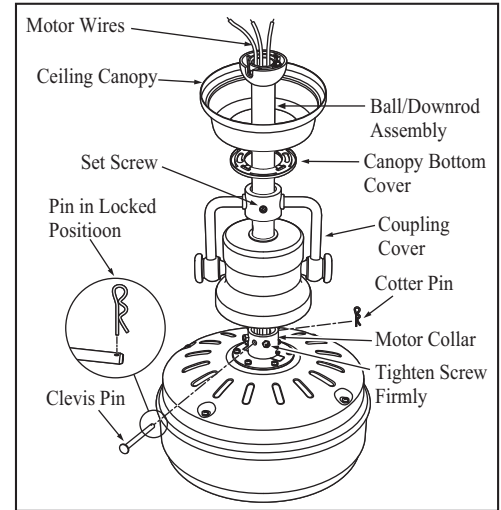

Figure 6
3. Remove the clevis pin, cotter pin and set screws from the top of the motor assembly. (Figure 6)
4. Route wires exiting from the top of the fan motor through the coupling cover, canopy cover, canopy and then through the ball/downrod. (Figure 6)
5. Align the holes at the bottom of the downrod with the holes in the coupling on top of the motor housing (Figure 6). Carefully insert the clevis pin through the holes in the collar and downrod. Insert the cotter pin through the hole near the end of the clevis pin until it snaps into its locked position, as noted in the circle inset of Fig. 6.
6. Tighten two set screws at top of the fan motor collar firmly and evenly. (Fig. 6)